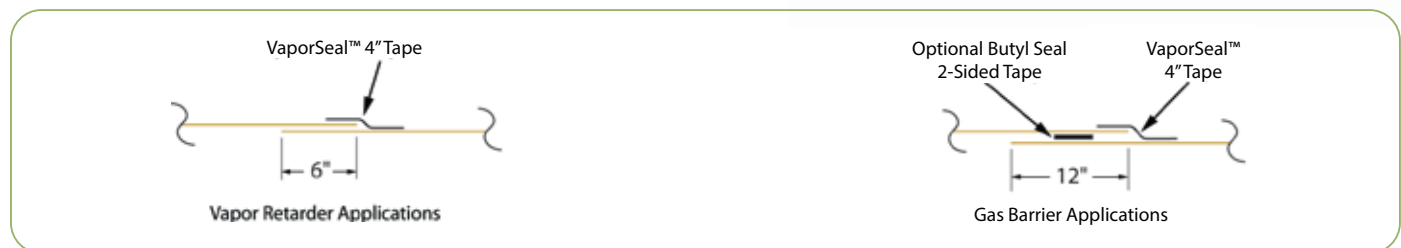

Figure 2: Radon BlockTM Overlap Joint Sealing Methods
- 1.3** Lap Radon BlockTM over the footings and seal with Butyl Seal tape at the footing-wall connection. Prime concrete surfaces, when necessary, and assure they are dry and clean prior to applying Butyl Seal Tape. Apply even and firm pressure with a rubber roller. Overlap joints a minimum of 6" and seal overlap with 4" VaporSealTM Tape. When used as a gas barrier, overlap joints a minimum of 12" and seal in-between overlap with an optional 2-sided Butyl Seal Tape. Then seal with 4" VaporSealTM Tape centered on the overlap seam (figure 2).